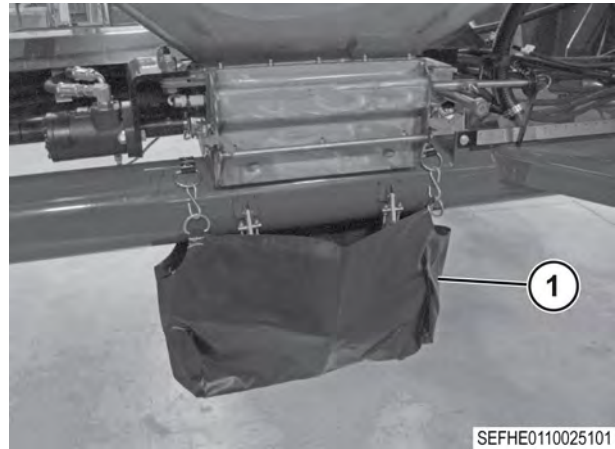

Fig. 24
1. Hang Calibration Bag (1) under meter being calibrated (Fig. 24)